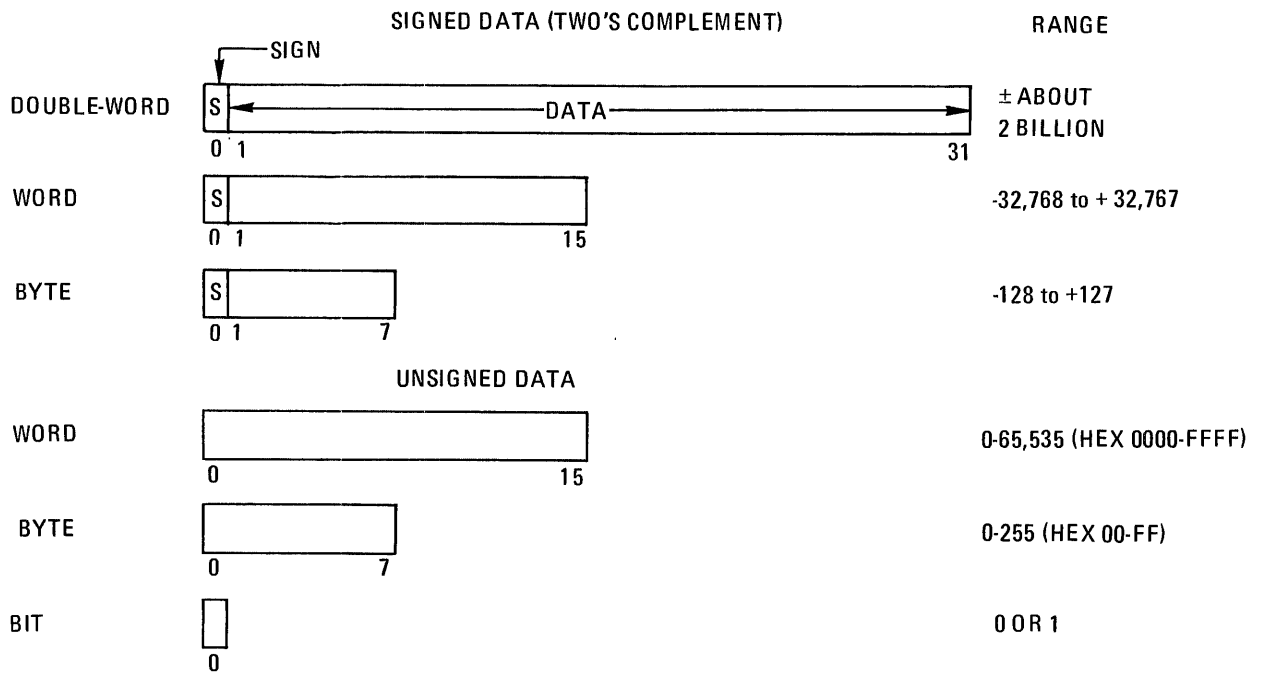

Figure 3-1. Data Formats
*Arithmetic (signed) data* is represented in two's complement notation. All arithmetic is performed in binary, with single word (16 bit) values extending from -32,768 to +32,767. A signed value in a byte can range from -128 to +127. Figure 3-1 shows the various data types for both signed and unsigned data.